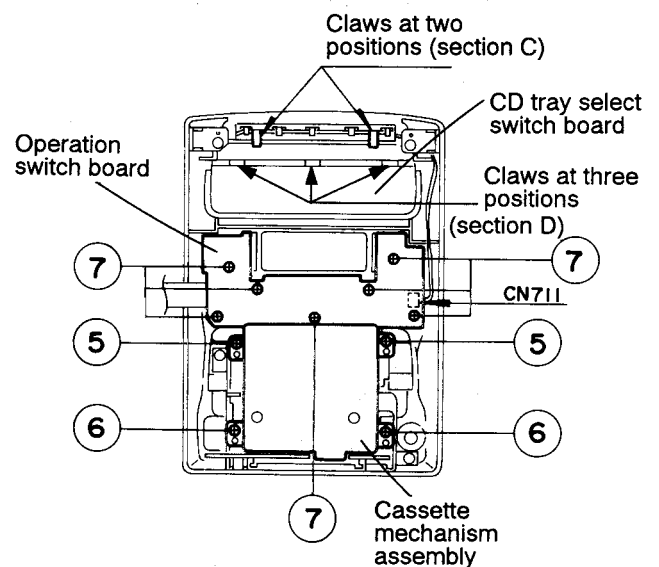

Fig. 5-7
(Fig. 5-7).
◆ **Removing the CD tray select and operation switch boards** (Figs. 5-7 to 5-9)
1. Remove seven screws ⑦ securing the operation switch board (Fig. 5-7).
2. Remove the 2-pin connector coming from the CD tray select switch board from connector CN711 on the operation switch board (Fig. 5-7).